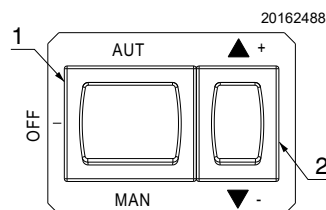
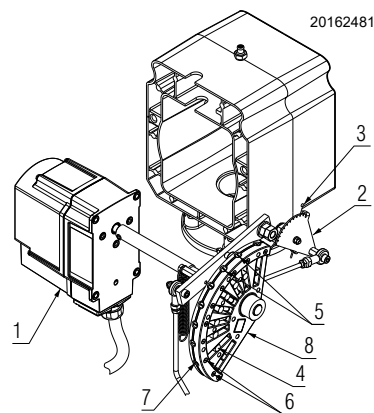

Fig. 38
Fig. 43
Switch off the burner using the switch 1)(Fig. 38), OFF position.
Close the control circuit and set switch 1)(Fig. 38) to "MAN". As soon as the burner starts check the direction of rotation of the fan blade, looking through the flame inspection window 14)(Fig. 4, page 11).
- Move the selector 1)(Fig. 38, page 28) in manual position.
- Move the selector 2)(Fig. 38, page 28) in position (+) (increase output) and keep it until the servomotor has opened the air damper and the gas butterfly valve to 90°.
Progressively adjust the end profile of cam 4)(Fig. 43) by turning the cam adjustment screws as they appear through the access opening 6).
- Move the selector 2)(Fig. 38, page 28) in position (-) (reduction output) until the servomotor has closed the air damper and the gas butterfly valve to 15° (factory set adjustment).
- If it has to be increased move the selector 2)(Fig. 38, page 28) in position (+) (increase output) (i.e. open the gas butterfly valve by 10-15°), increase the cam black angle with small successive movements, i.e. take it from angle 15° to 17° - 19°.... (Refer to paragraph "Cams adjustment" on page 28).
- Move the selector 2)(Fig. 38, page 28) in position (-) (reduction output) until the servomotor is taken to the minimum opening position and measure the gas delivery.
Progressively adjust the starting profile of cam 4)(Fig. 43) by turning the screws working through the access hole 6).
- Place the selector 1)(Fig. 38, page 28) in manual position.
- Place the selector 2)(Fig. 38, page 28) in middle position and set the variable profile cam 4)(Fig. 43) by turning the screws 5).